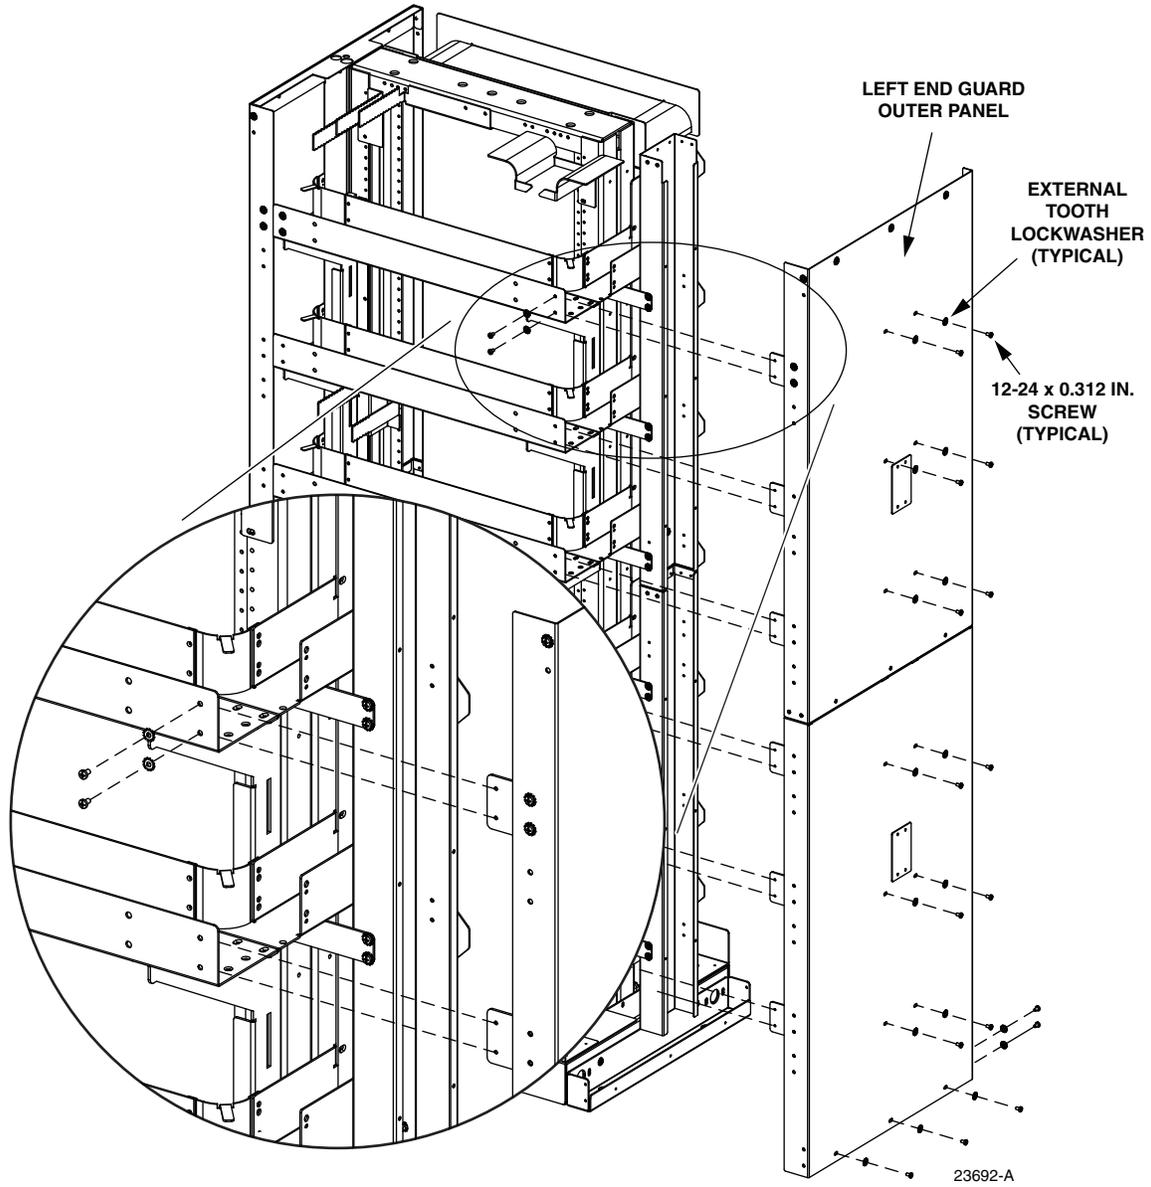

Figure 8. Assembling the End Guard to the Frame
5. Assemble the end guard to the frame in the orientation shown in Figure 8, positioning the six rear end guard mounting brackets on the inside surface of the rear trough of the frame. Fasten each individual bracket to the rear trough using two 12-24 x 0.312 inch screws and two external tooth washers, as shown.
- Attach the end guard top to the end guard as shown in Figure 8 using four 12-24 x 0.312 inch screws and four external tooth lockwashers.